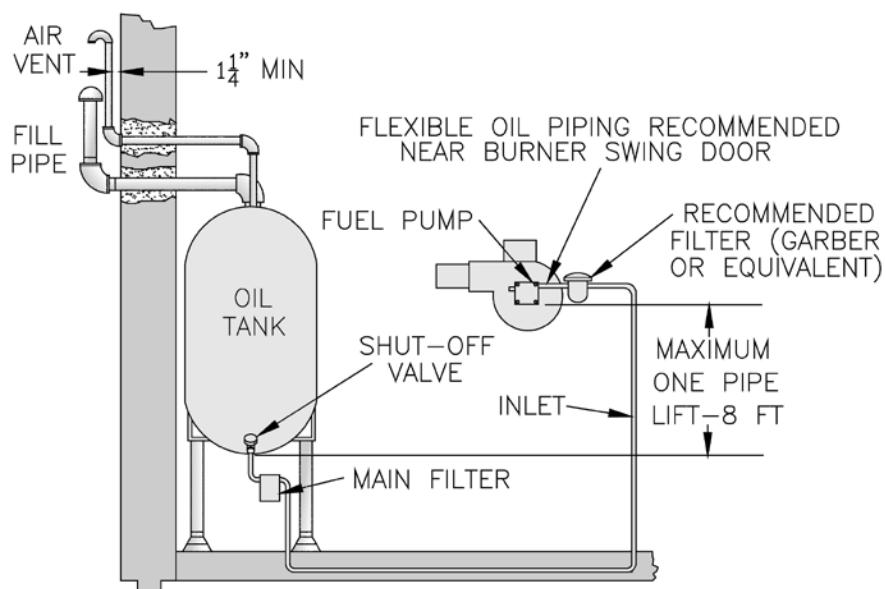

Figure 23: Single Pipe Oil Line
2. The single-stage fuel unit may be installed single-pipe with gravity feed or lift. Maximum allowable lift is 8 feet. See Figure 23.